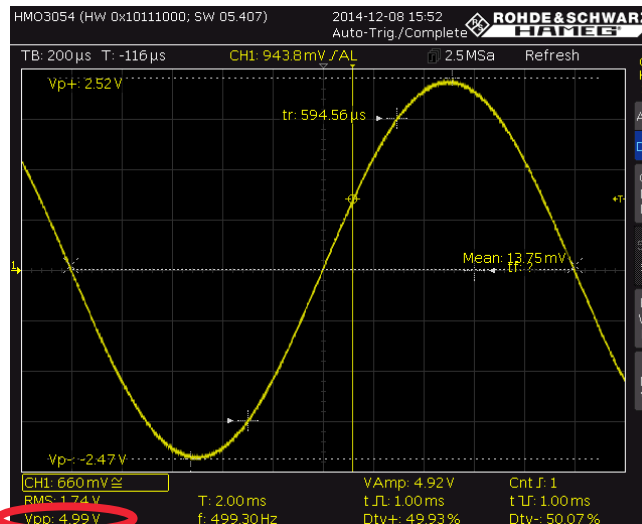

Fig. 2-39: Display of all relevant signal values.
- Press the *QUICK View* key. All relevant parameters of the input signal  $u_{in}$  are displayed (Fig. 2-39),  $U_{in} = V_{pp} = 4.99\text{ V}$ . (Note: You can also use the *CH2* key to switch to the output voltage  $U_{out}$ .)